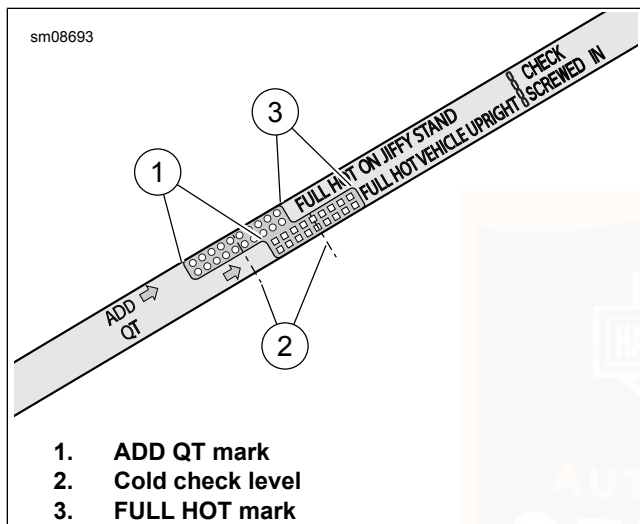

Figure 63. Engine Oil Dipstick
See Figure 63. When checking oil level, use the gauge marked FULL HOT VEHICLE UPRIGHT.
3. See Figure 63. Remove filler plug/dipstick. Using the gauge marked FULL HOT VEHICLE UPRIGHT on the dipstick, verify the oil level. The correct oil level should register midway (2) between the ADD QT and FULL HOT marks on the dipstick.
6. Check oil level. Add only enough to bring level midway between the ADD QT (1) and FULL HOT (3).
4. See Figure 63. Remove filler plug/dipstick. Using the gauge marked FULL HOT VEHICLE UPRIGHT on the dipstick, verify the oil level. The level should be between the ADD QT (1) and FULL HOT (3) marks. Add oil as necessary to bring the level to the FULL HOT mark on the dipstick. Do not overfill.